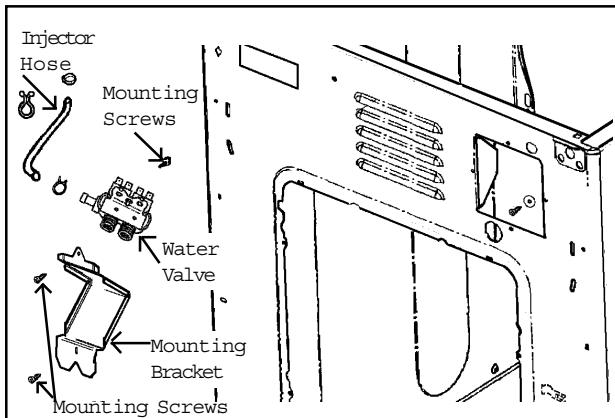

Figure 6-1
- 3 Remove the two $\frac{1}{4}$ " hex head screws securing the water valve bracket to the cabinet (**Figure 6-1**).